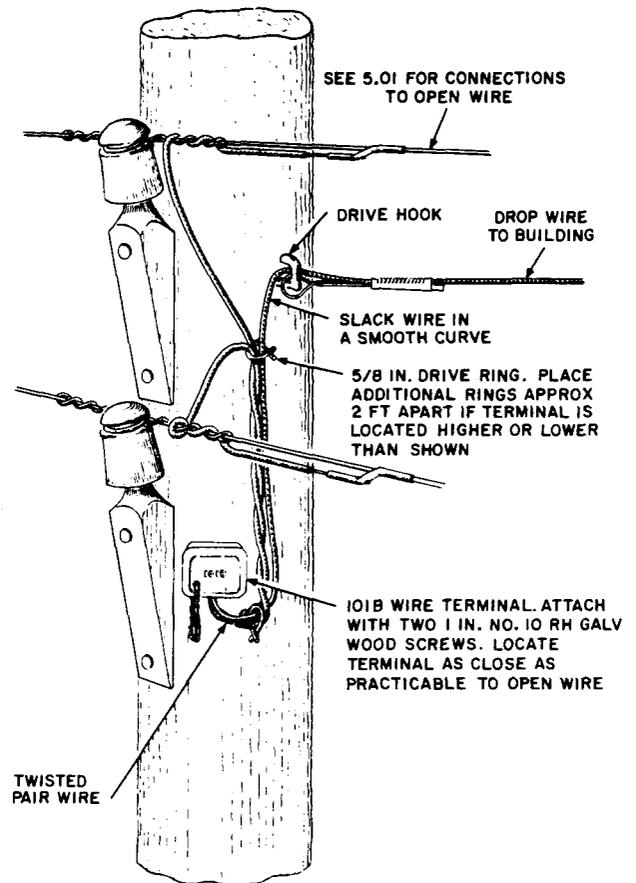

Fig. 5—Where Pole Brackets are Located on Same Side of Pole
4.14 The wiring arrangements on line poles equipped with wooden pole brackets are shown in Fig. 5.